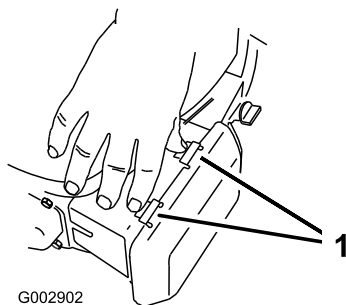

Figure 42
1. Press down on the latch tabs on top of the air cleaner cover (Figure 42).